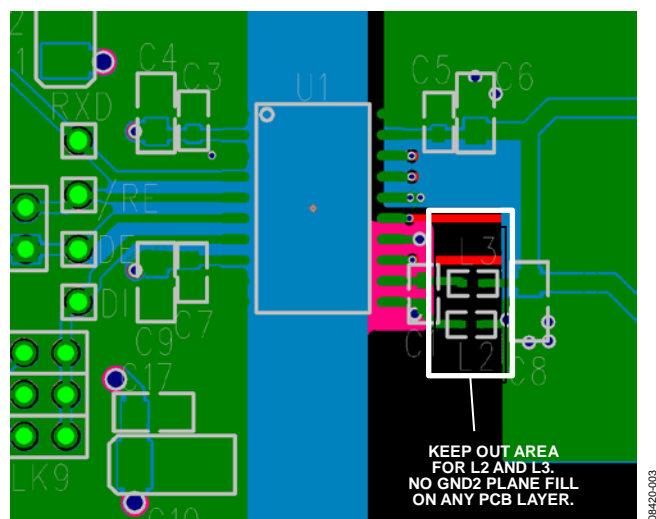

Figure 3. Layout Notes for EVAL-ADM2582EEBZ and EVAL-ADM2587EEBZ
- Do not connect the  $V_{ISOOUT}$  pin to a power plane; connect between  $V_{ISOOUT}$  and  $V_{ISOIN}$  using a PCB trace. Ensure that  $V_{ISOIN}$  (Pin 19) is connected through the L3 ferrite to  $V_{ISOOUT}$  (Pin 12), as shown in Figure 3.
- Ensure that  $GND_2$  (Pin 16) is connected to  $GND_2$  (Pin 11) on the outside (bus side) of the L2 ferrite, as shown in Figure 3.